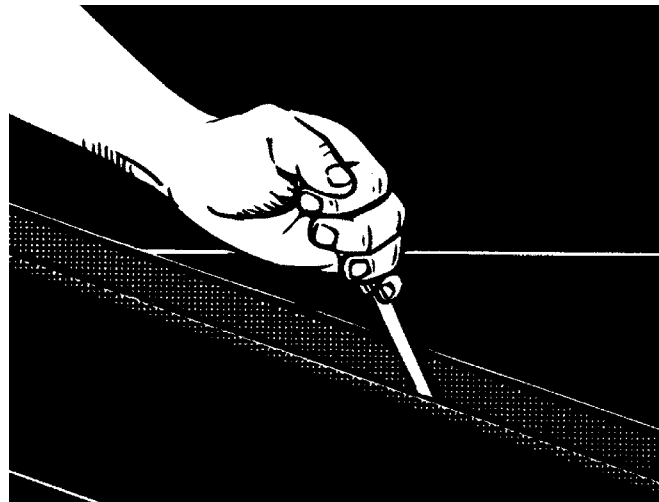

Fig. 6-4
15. Using a single ply knife carefully cut the first ply (bias line) (Fig. 6-4).